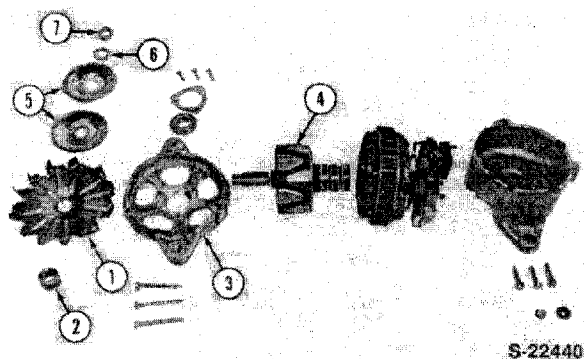

Figure 80
3. Place the rotor in a vise with soft jaws and remove the pulley nut, washer, pulley, fan, spacer, front bracket and two dust seals from the rotor, Figure 80.